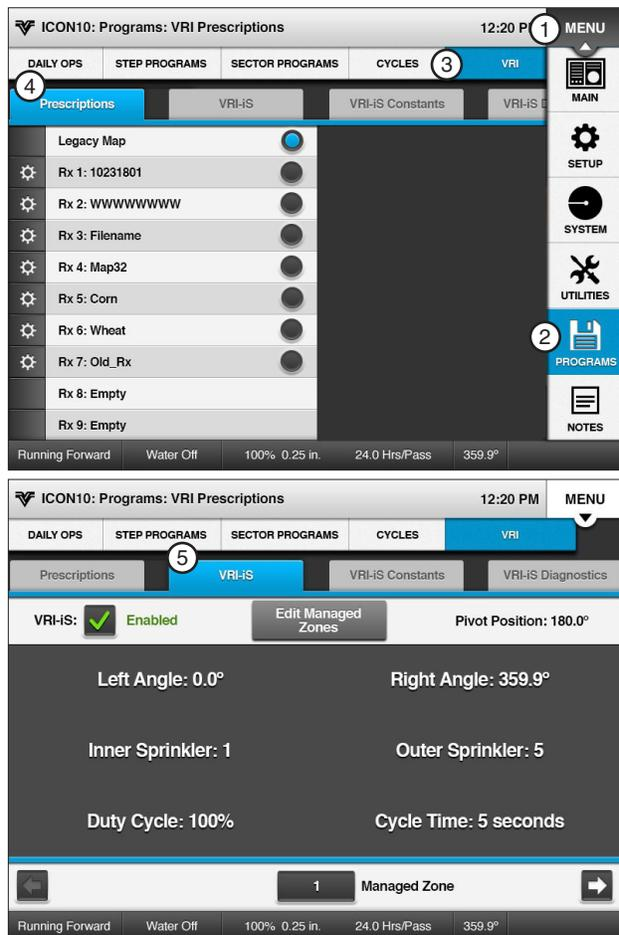

Figure 170-1 1. Menu
- Push **Menu**, **Programs** and **VRI**. The landing screen displays the Prescriptions tab. Push the **VRI-iS** tab to access the VRI-iS screen. Refer to Figure 170-1.
1. Push **Menu**, **Programs**, **VRI** and **VRI-iS** to access the VRI-iS screen. Refer to Figure 170-1.